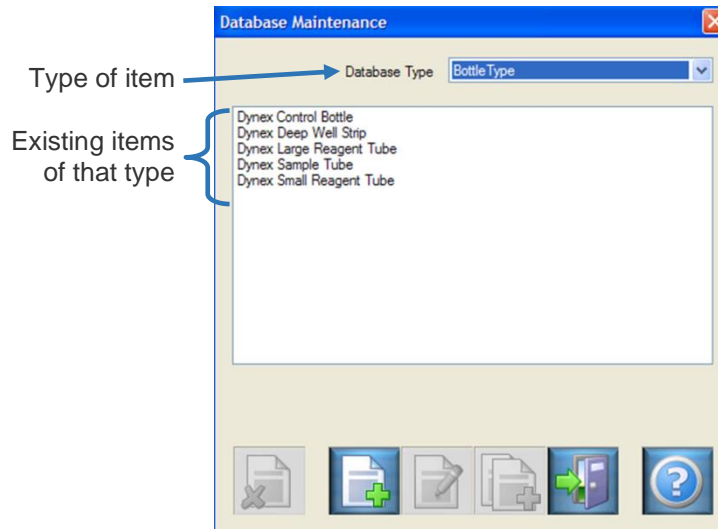

Figure 39: Database Maintenance
1. Display the *Database Maintenance* dialog box (Figure 39).